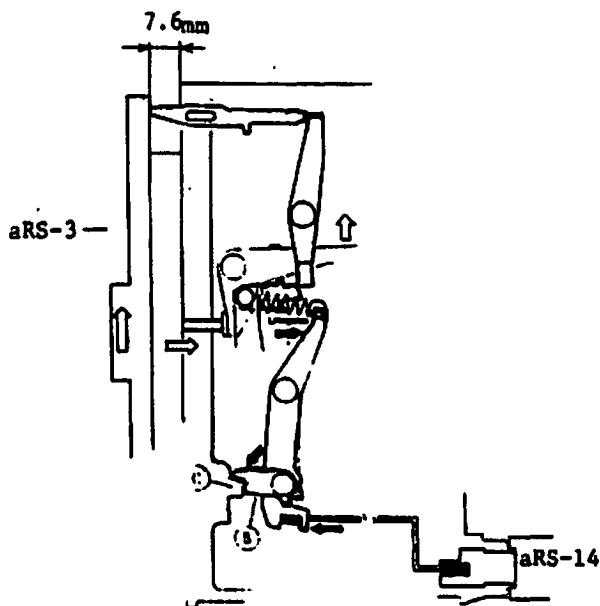

Fig 93
3. Push the shutter button and confirm that Shutter button can not be released. (Fig. 93)